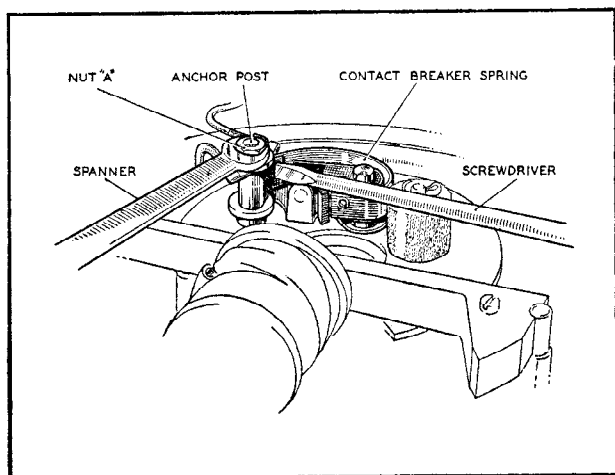

Fig. 3
**Note:** When tightening the contact breaker spring retaining nut of earlier production 2F1 and 3F1 flywheel magnetos (Nut "A" in Fig. 3) care must be taken to prevent rotation of the spring about the anchor post. Rotation will reduce the clearance between the inside of the spring and the tip of the contact